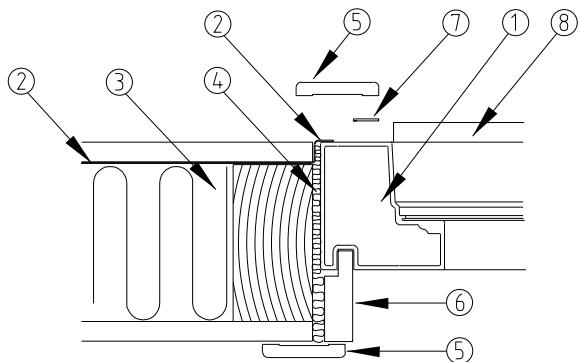

Fig. 3
**See figure 3, item 2.**
**See figure 3, item 5.** Use the double-sided tape supplied to secure the wooden seals on the PVC frame. Use the tacks on the outer edge of the seals to secure them to the wall.
9. Fit the linings around the inside of the door in the cold room. **See figure 3, item 6.**
10. Fill space between frame and wall with insulation material. **See figure 3, item 4.**